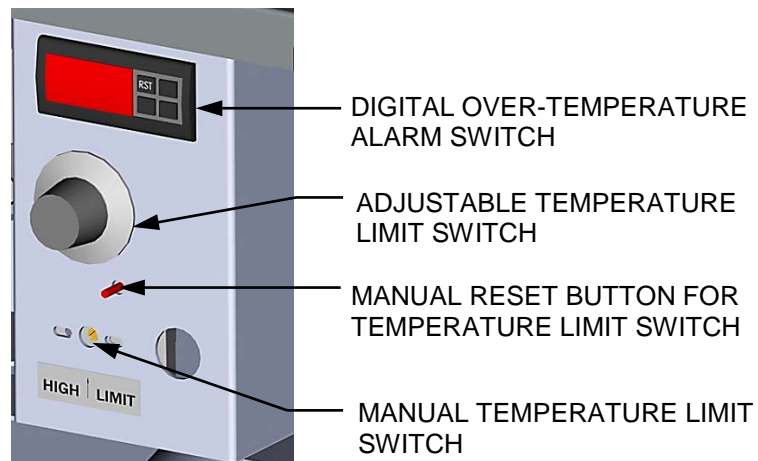

Figure 4-5: Over-Temperature Limit Switch Locations
The unit contains three (3) types of over-temperature limit controls. These controls consist of a Manual Reset button, a rotary adjustable Temperature Limit switch and a digital Over-Temperature Alarm button. These controls are mounted on a plate as shown in Figure 4-5. They can be accessed by opening the front panel door of the unit.
The Manual Reset button is not adjustable and is permanently fixed at 210°F (98.9°C). This button will shut down and lock out the Heating Boiler if the water temperature **exceeds 210°F (98.9°C)**. Following an over-temperature condition, it must be manually reset by pressing the **Manual Reset** button shown in Figure 4-5 before the Heating Boiler can be restarted.
The digital Over-Temperature Alarm switch shown in Figures 4-5 and 4-6 is preset at the factory to 210°F (98.9°C) and should not be changed. If an over-temperature condition is detected, this switch automatically shuts down the Heating Boiler and sounds an audible alarm. If desired, the Over-Temperature Alarm can be checked or adjusted using the procedure in section 4.5.1.